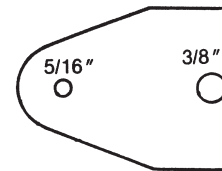

Fig. 1
2. Use the horn gasket as a template, mark hole locations and drill to size. See Fig. 1.